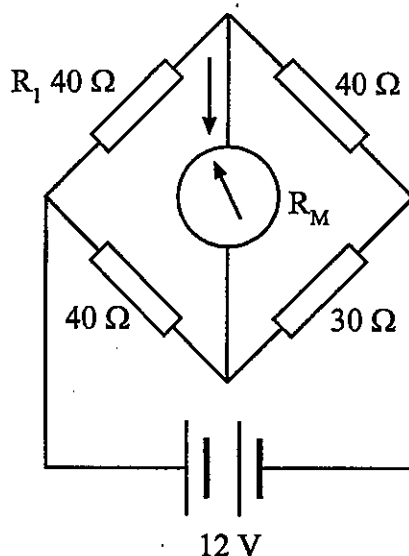

Fig Q1
1. The network shown in Fig Q1 is for measuring purposes. The meter reads 10mA in the direction shown.